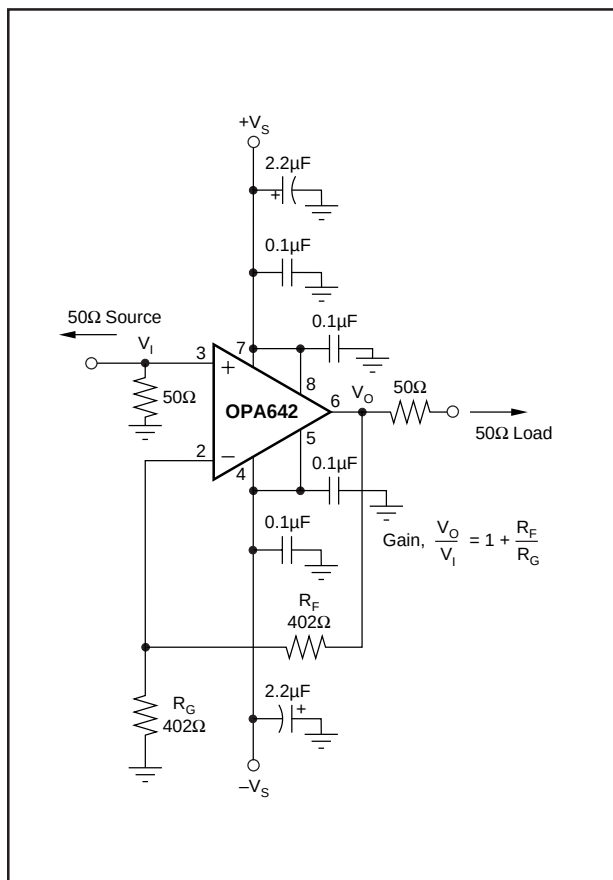
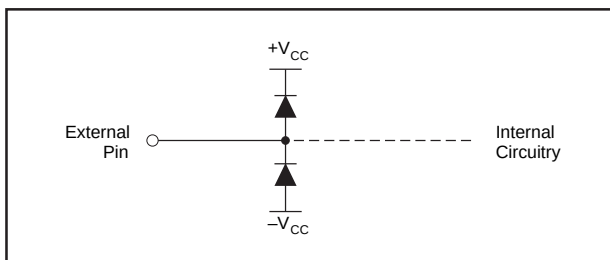

FIGURE 1. Gain of +2, High Frequency Application and Characterization Circuit [P or U Package].
FIGURE 9. Internal ESD Protection.
The OPA642's combination of speed and dynamic range is easily achieved in a wide variety of application circuits, providing that simple principles of good design practice are observed. For example, good power supply decoupling, as shown in Figure 1, is essential to achieve the lowest possible harmonic distortion and smooth frequency response. Proper PC board layout and careful component selection will maximize the performance of the OPA642 in all applications, as discussed in the remaining sections of this data sheet.
Figure 1 shows the gain of +2 configuration used as the basis for most of the Typical Performance Curves. Most of the curves were characterized using signal sources with 50Ω driving impedance, and with measurement equipment presenting 50Ω shunt load impedance. In Figure 1, the 50Ω shunt resistor at the  $V_I$  terminal matches the source impedance of the test generator, while the 50Ω series resistor at the  $V_O$  terminal provides a matching resistor for the measurement equipment load. Generally, data sheet specifications refer to the voltage swing at the output pin ( $V_O$  in Figure 1). The 100Ω load from the series and shunt matching resistances, combined with the 804Ω total feedback network load, presents the OPA642 with an effective load of approximately 90Ω.
To achieve the lowest possible distortion in the 8-pin SO-8 or DIP package, the addition of 0.1μF decoupling capacitors on pins 5 and 8 is required. These are shown in Figure 1. Although pins 5 and 8 are internally connected to pins 4 and 7 respectively (the standard supply pins for 8-pin op amps), the additional capacitors help to decouple the package lead inductances and improve second harmonic suppression at 5MHz by approximately 4dB. The much shorter bond wires and supply leads of the SOT23-5 package give the best distortion performance while requiring only two power supply connections.
is typically set up for a voltage gain of +2, compensating for the 6dB attenuation of the voltage divider formed by the series and shunt 75Ω resistors at either end of the cable. The circuit of Figure 1 applies to this requirement if all references to 50Ω resistors are replaced by 75Ω values. Often, the amplifier gain is further increased to 2.2, which recovers the additional DC loss of a typical long cable run. This change would require the gain resistor ( $R_G$ ) in Figure 1 to be reduced from 402Ω to 335Ω. In either case, both the gain flatness and the differential gain/phase performance of the OPA642 will provide exceptional results in video distribution applications. Differential Gain and Phase measure the change in overall small-signal gain and phase for the color subcarrier frequency (3.58MHz in NTSC systems) vs changes in the large-signal output level (which represents luminance information in a composite video signal). The OPA642, with the typical 150Ω load of a single matched video cable, shows less than 0.01%/0.01° differential gain/phase errors over the standard luminance range for a positive video (negative sync) signal. Similar performance would be observed for negative video signals. In practice, similar performance is achieved even with two video loads due to the linear high-frequency output impedance of the OPA642.
A good rule of thumb is to target the parallel combination of  $R_F$  and  $R_G$  (Figure 1) to be less than about 200Ω. The combined impedance  $R_F \parallel R_G$  interacts with the inverting input capacitance, placing an additional pole in the feedback network and thus a zero in the forward response. Assuming a 2pF total parasitic on the inverting node, holding  $R_F \parallel R_G < 200\Omega$  will keep this pole above 400MHz. By itself, this constraint implies that the feedback resistor  $R_F$  can increase to several kΩ at high gains. This is acceptable as long as the pole formed by  $R_F$  and any parasitic capacitance appearing in parallel is kept out of the frequency range of interest.
configuration this is sum of  $R_F + R_G$ , while in the inverting configuration this is just  $R_F$  (Figure 1). Increasing output voltage swing increases harmonic distortion directly. A 6dB increase in output swing will generally increase the second harmonic 12dB and the third harmonic 18dB. Increasing the signal gain will also increase the second harmonic distortion. Again a 6dB increase in gain will increase the second and third harmonic by 6dB even with a constant output power and frequency. And finally, the distortion increases as the fundamental frequency increases due to the rolloff in the loop gain with frequency. Conversely, the distortion will improve going to lower frequencies down to the dominant open-loop pole at approximately 3kHz. Starting from the -90dBc second harmonic for 2Vp-p into 500Ω,  $G = +2$  distortion at 1MHz (from the Typical Performance Curves), the second harmonic distortion at 20kHz should be approximately  $-90\text{dB} - 20\log(1\text{MHz}/20\text{kHz}) = -124\text{dBc}$ .
Evaluating these two equations for the OPA642 circuit shown in Figure 1 will give a total output spot noise voltage of  $6.7\text{nV}/\sqrt{\text{Hz}}$  and an equivalent input spot noise voltage of  $3.35\text{nV}/\sqrt{\text{Hz}}$ .
Narrowband communications systems are more commonly concerned with the noise figure for the amplifier. The total input referred voltage noise expression (Eq. 2), may be used to calculate the noise figure. Equation 3 shows this noise figure expression using the  $E_N$  of Eq. 2 for the non-inverting configuration where the input terminating resistor  $R_T$  has been set to match the source impedance (as shown in Figure 1).
Evaluating Equation 3 for the circuit of Figure 1 gives a Noise Figure = 17.6dB. Input transformer coupling can be used to reduce this noise figure. A broadband pulse transformer can provide both a noiseless voltage gain and a more optimum source impedance to minimize the noise figure. Figure 7 shows an example built from the circuit of Figure 1, in which the transformer turns ratio has been set to the
The OPA642 can provide excellent DC signal accuracy due to its high open-loop gain, high common-mode rejection, high power supply rejection, and low input offset voltage and bias current offset errors. The high grade (B) version of any package type provides less than 1mV input offset voltage. To take full advantage of this low input offset voltage, a careful attention to input bias current cancellation is also required. The high speed input stage for the OPA642 has a relatively high input bias current (25μA typ into the pins) but with a very close match between the two input currents—typically 100nA input offset current. The total output offset voltage may be considerably reduced by matching the source impedances looking out of the two inputs. For example, one way to add bias current cancellation to the circuit of Figure 1 would be to insert a 175Ω series resistor into the non-inverting input from the 50Ω terminating resistor. When the 50Ω source resistor is DC coupled, this will increase the source impedance for the non-inverting input bias current to 200Ω. Since this is now equal to the impedance looking out of the inverting input ( $R_F \parallel R_G$ ), the circuit will cancel the gains for the bias currents to the output leaving only the offset current times the feedback resistor as a residual DC error term at the output. Using a 402Ω feedback resistor, this output error will now be less than  $3\mu A \cdot 402\Omega = 1.2\text{mV}$ .
As a worst case example, compute the maximum  $T_J$  using an OPA642N (SOT23-5 package) in the circuit of Figure 1 operating at the maximum specified ambient temperature of +85°C.  $P_D = 10V \cdot 26mA + 5^2 / (4 \cdot (100\Omega \parallel 804\Omega)) = 330mW$ . Maximum  $T_J = +85^\circ C + 0.33W \cdot 150^\circ C/W = 135^\circ C$ .
The OPA642 is built using a very high speed complementary bipolar process. The internal junction breakdown voltages are relatively low due to these very small geometry devices. These breakdowns are reflected in the Absolute Maximum Rating table. All device pins are protected with internal ESD protection diodes to the power supplies as shown in Figure 9.
High input overdrive signals can also cause significant differential voltage between the + and - inputs. Where this voltage can exceed the maximum rated voltage of  $\pm 1.2V$ , external Schottky protection diodes should be added across the two inputs. Again, the capacitance added by these diodes can degrade the noise and AC performance and should be used only where necessary. Figure 9 shows a fully featured input protection circuit for the OPA642. This is the circuit of Figure 1 with additional limiting resistors into the inputs and Schottky clamp diodes across the inputs. These resistor values have been selected to limit the degradation in noise and frequency response, achieve DC bias current cancellation, and limit the current that will flow under overdrive conditions.